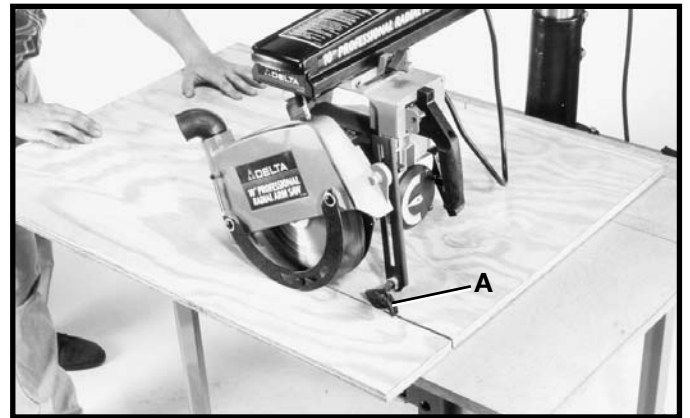
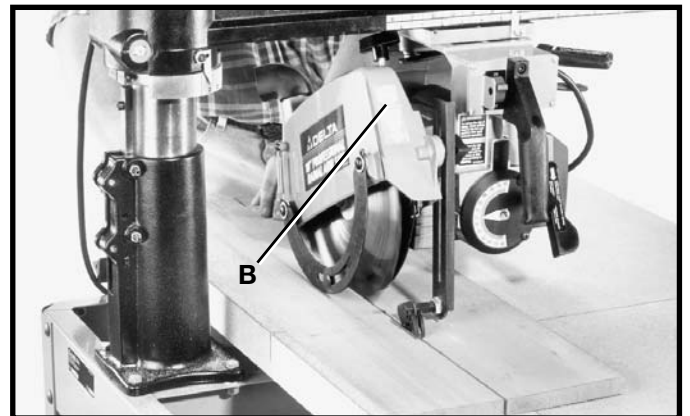
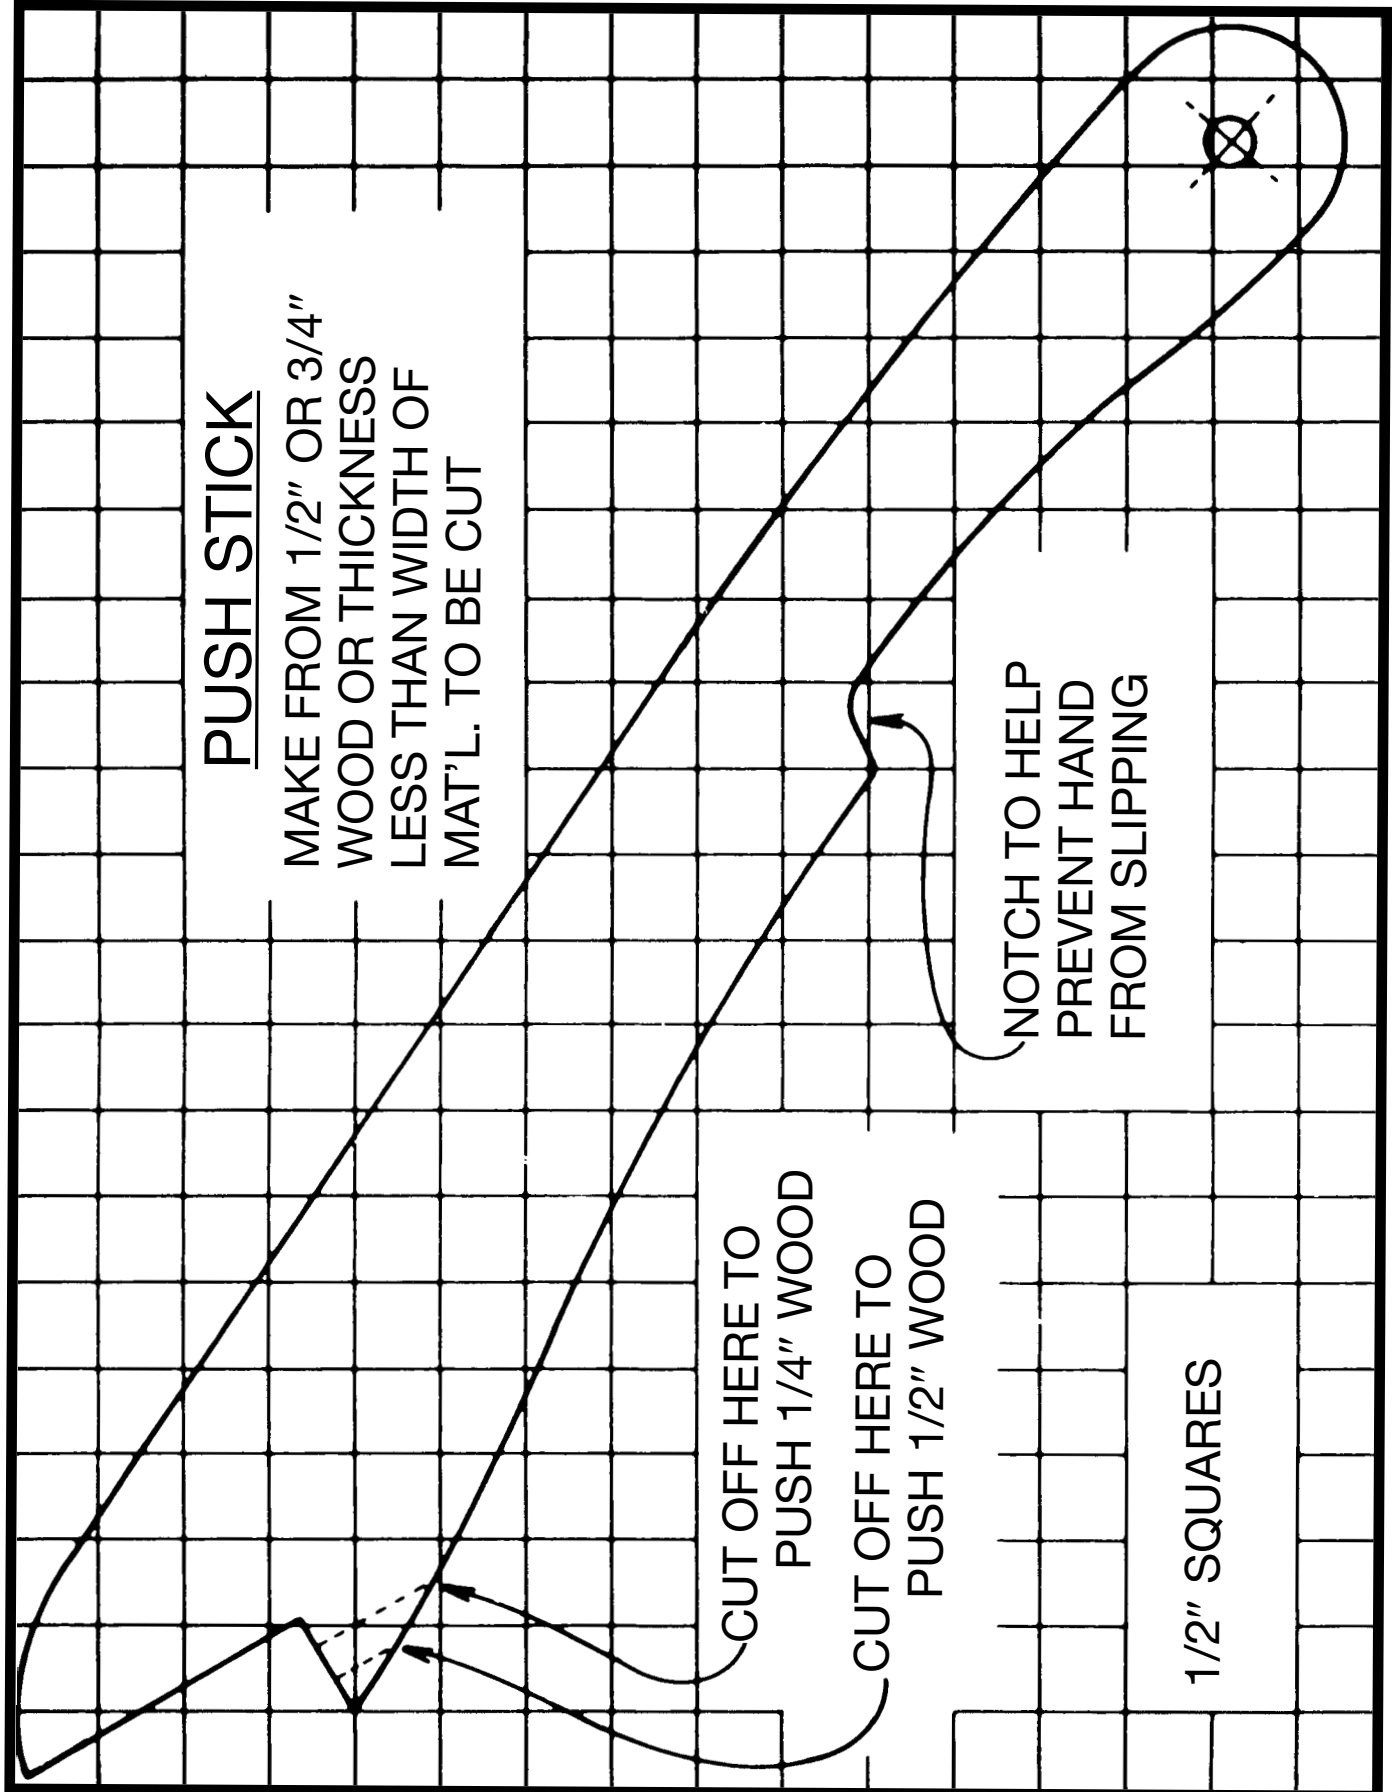

Fig. 77
Fig. 78
Fig. 79
Ripping involves making a lengthwise cut through a board along the grain. When ripping, the track arm is clamped at "0" on the miter scale. The yoke is then positioned and clamped so that the blade is parallel to the fence in either the inboard or outboard position. When feeding the material, one edge rides against the fence while the flat side of the board rests on the table. The guard should be lowered on the in-feed side until it almost touches the workpiece, as shown in Figs. 77 and 78, to act as a holddown. The splitter and anti-kickback fingers (A) Fig. 77, should be adjusted as described under the section **"ADJUSTING SPLITTER AND ANTI-KICKBACK FINGERS"** in this manual. The operators hands should always be well away from and to the side of the blade. When ripping narrow work, always use a push stick as shown in Fig. 79, to push the work between the fence and blade. The workpiece must have one straight edge to follow the fence. If board is bowed, place hollow side down. The cutting-head clamp knob should be securely tightened for all ripping operations. Pay particular attention to warning label (B) Fig. 78, which states that material must never be fed into the outfeed end of the blade guard.
Out-ripping involves all of the general conditions stated above. The yoke is clamped at right angle to the track arm with the blade guard facing the front of the machine. The cutting-head is positioned on the out-rip scale to the desired setting and clamped in position. The workpiece is fed from the left side of the saw. Fig. 77, shows a typical out-ripping operation on the radial saw.
In-ripping involves all of the general conditions stated under **RIPPING**. The yoke is clamped at right angle to the track arm with the blade guard facing the rear of the machine. The cutting-head is positioned on the in-rip scale to the desired setting and clamped in position. The workpiece is fed from the right side of the saw. Fig. 78, shows a typical in-ripping operation on the radial saw.
**WARNING: WHEN RIPPING WORK LESS THAN FOUR INCHES WIDE, A PUSH STICK SHOULD BE USED TO COMPLETE THE FEED (SEE FIG. 79)**
When ripping work less than 4 inches wide, a push stick should be used to complete the feed and could easily be made from scrap material by following the pattern shown in Fig. 79.